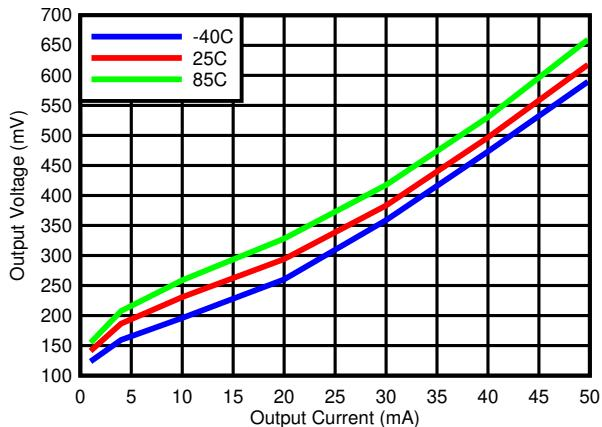
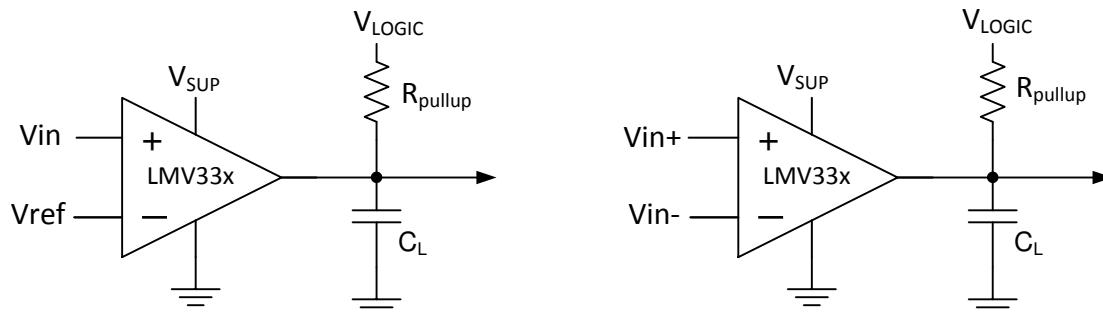

Figure 5-3. Output Voltage vs Output Current
Figure 7-1. Typical Application Schematic
The output consists of an open drain NPN (pull-down or low side) transistor. The output NPN sinks current when the negative input voltage is higher than the positive input voltage and the offset voltage. The V_{OL} is resistive and scales with the output current. Please see Figure 5-3 for V_{OL} values with respect to the output current.
Output current is determined by the pull-up resistance (R_{pullup}) and Vlogic voltage, refer to Figure 7-1. The output current produces a output low voltage (V_{OL}) from the comparator. In which V_{OL} is proportional to the output current. Use Figure 5-3 to determine V_{OL} based on the output current.
- R_{CE} can be determine by taking the slope of Figure 5-3 in its linear region at the desired temperature, or by dividing the V_{OL} by I_{out}